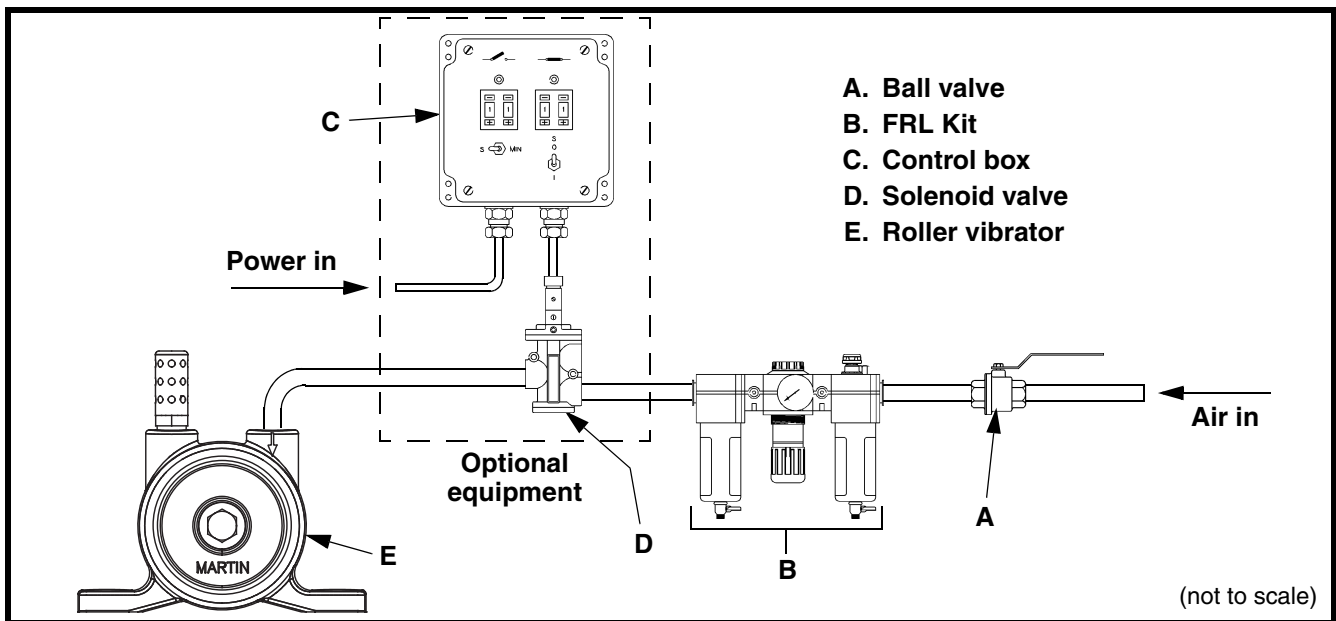

Figure 2. Connecting Air Lines to Vibrator
- a. See Figure 2. Connect air line to ball valve (A) and Filter/Regulator/Lubricator (FRL) Kit (B). Set lubricator to deliver 1–3 drops of oil per minute.